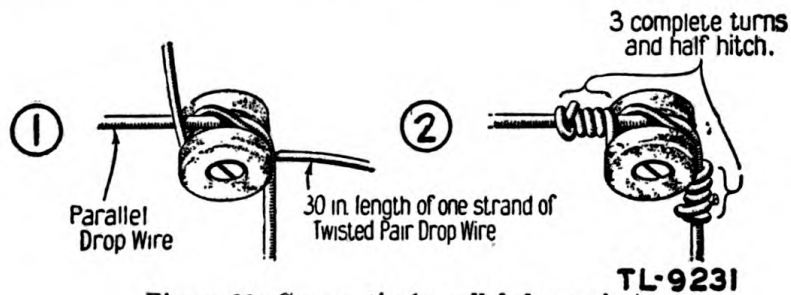

Figure 36. Corner tie (parallel drop wire).
b. CORNER TIE. The corner tie is made as shown in figure 36.